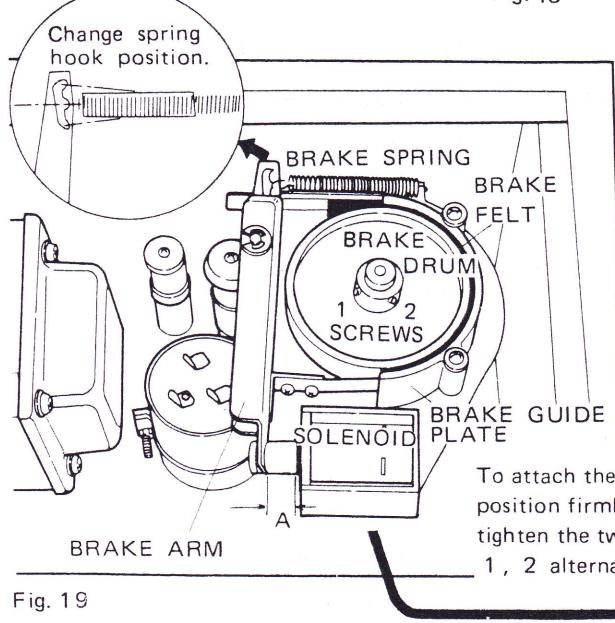

Fig. 19
- Is A in Fig. 19 12.8mm when the solenoid is not operating?
● Adjustment (Figs. 19, 20)